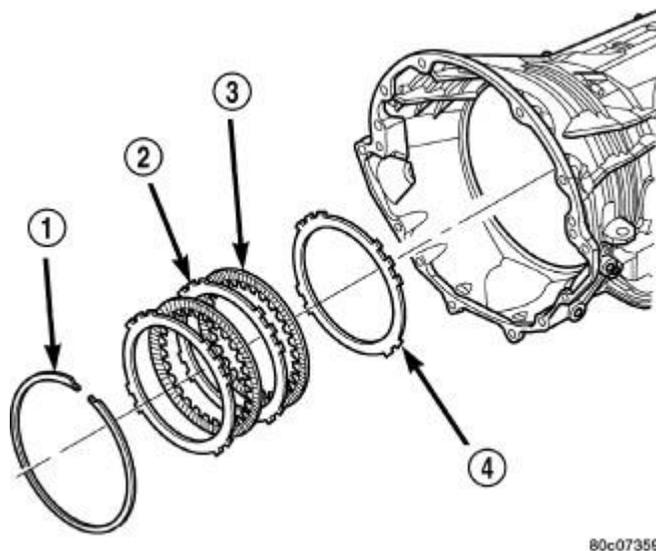

Fig. 71: 2C Clutch Pack & Snap-Ring
22. Install the 2C reaction plate (4) with the beveled edge down (rearward) into the transmission case. Refer to **Fig. 71**.
23. Install the 2C clutch pack (2, 3, 4) into the transmission case. Refer to **Fig. 71**.
26. Install the flat 2C clutch snap-ring into the transmission case. Refer to **Fig. 71**.